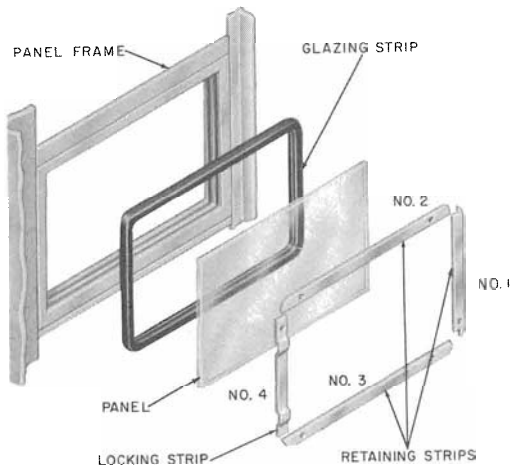

Fig. 24—Assembly of Side or Rear Panels
**4.19** Booth panels and signs are held in place by four interlocking retaining strips inserted in sequence as shown in Fig. 24. The No. 4 strip is rippled and is held in place by interface friction. Refer to Table E for retaining strips.
(7) Replace retaining strips in sequence as shown in Fig. 24.